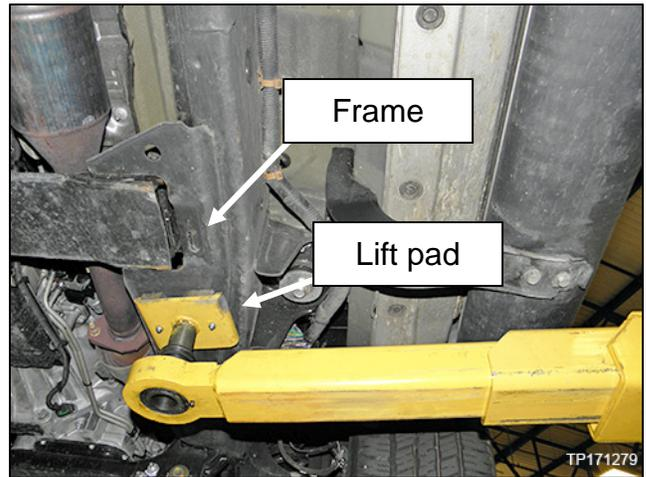

Figure 3
2. Raise vehicle on lift with lift pads placed on the frame as shown in Figure 3.